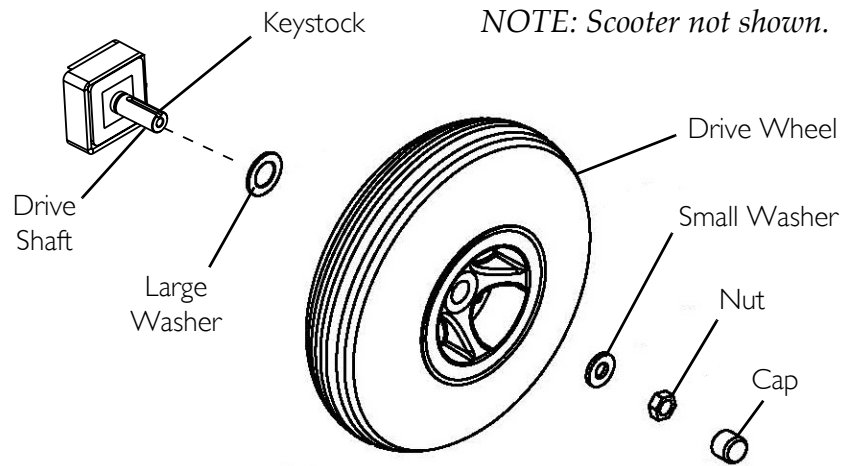

FIGURE 9.1 Removing/Installing the Drive Wheels
NOTE: For this procedure, refer to FIGURE 9.1 on page 34.
1. Place keystock in cutout on drive shaft as shown in FIGURE 9.1.